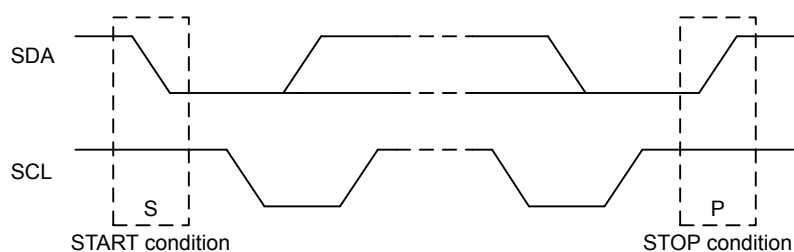

Figure 17.4. I²C START and STOP Conditions
START and STOP conditions are used to initiate and stop transactions on the I²C-bus. All transactions on the bus begin with a START condition (S) and end with a STOP condition (P). As shown in Figure 17.4 I²C START and STOP Conditions on page 501, a START condition is generated by pulling the SDA line low while SCL is high, and a STOP condition is generated by pulling the SDA line high while SCL is high.